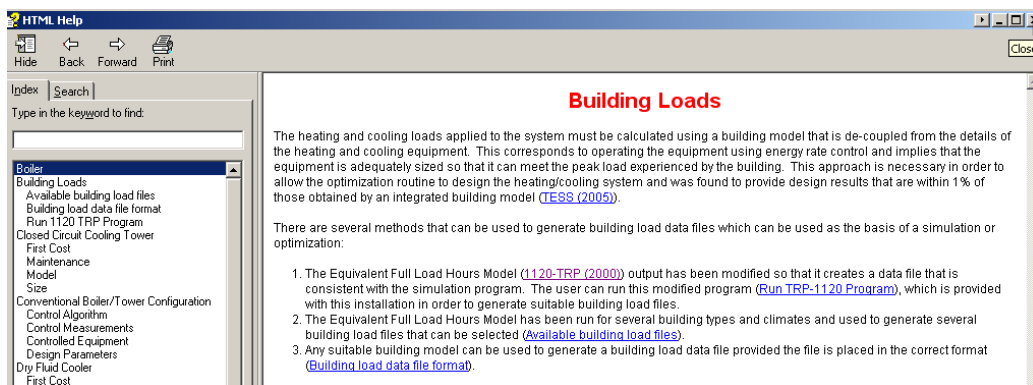

Figure 12. Building loads help page.
- 6.) To get specific help relative to any input (including Building Loads) just press **F1** while you're entering that input in the box (for example, while your cursor is still in the *Building loads file* box). The help can also be accessed by clicking on the help button at the bottom of each tab. Further note that the *Index* and *Search* features on the left side of the help screen (Figure 12) also provides a convenient way to find specific information. Close the help when you are done (using the x in the upper right corner) and return to the simulation.